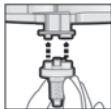

Fig. 2
3. Place one of the enclosed Dynamix Mixing Tips over the outlets of the cartridge. (Fig. 2)